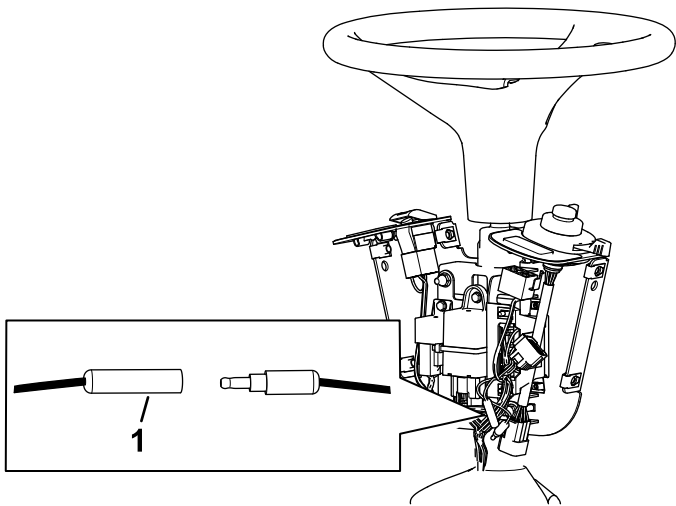

Figure 10
- Leave the bullet connectors disconnected as shown in Figure 10.